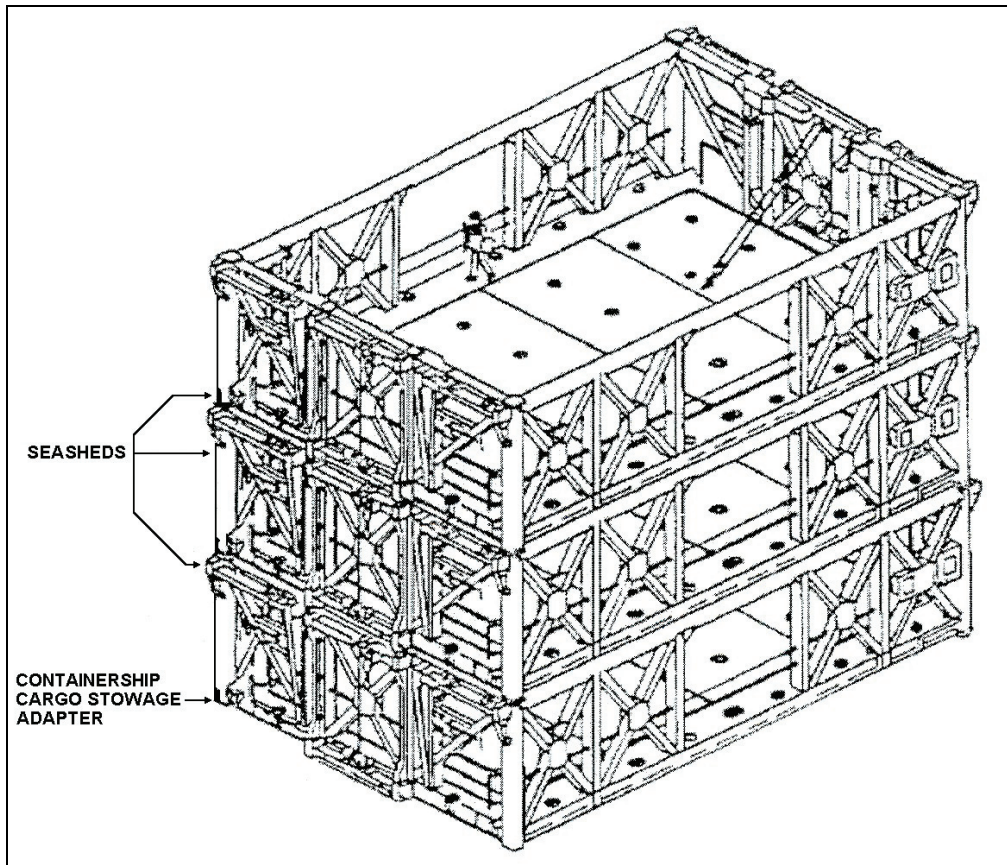

Figure 3-44. Seashed System
1. Operate seashed system (see Figure 3-44).